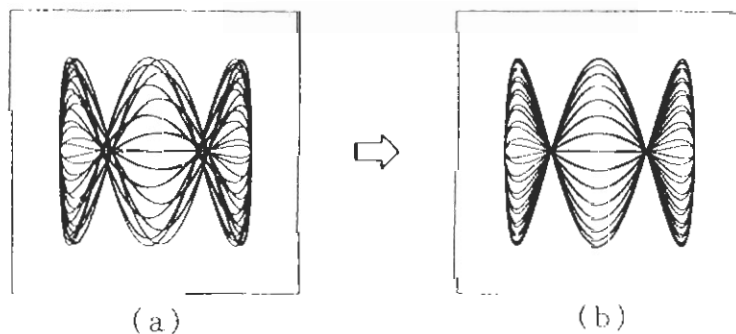

Fig. 12-4 Pilot Signal and RDS Subcarrier Phase Calibration
Adjust RDS SUBCARRIER PHASE ④5 to change the display from Fig. 12-4 (a) to that of (b).